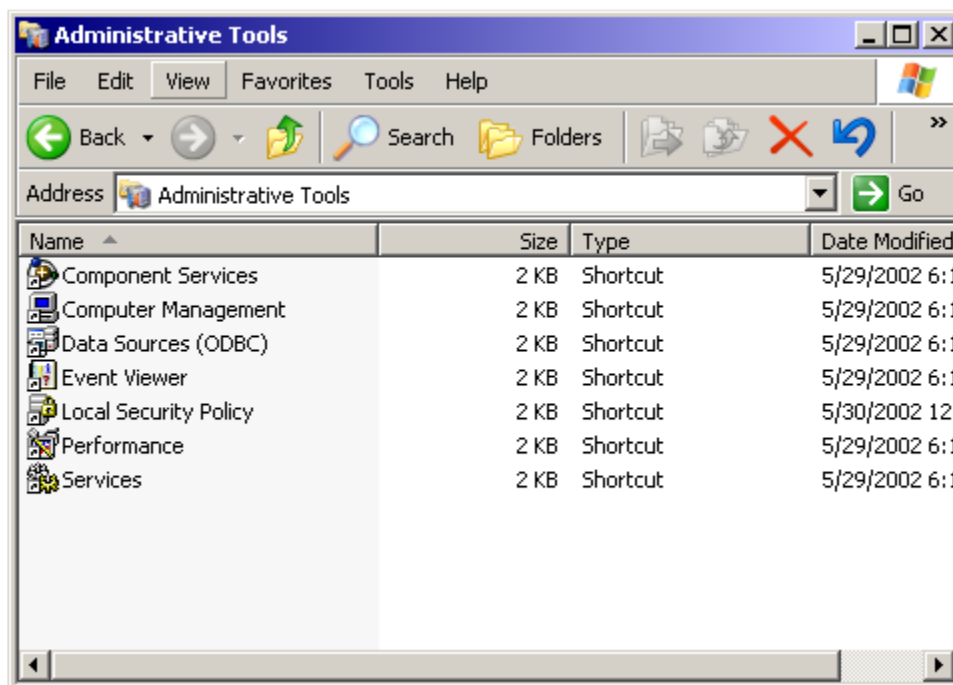

FIGURE 125. Administrative Tools window
4. Click on the Administrative Tools to bring up the window as in Figure 125.